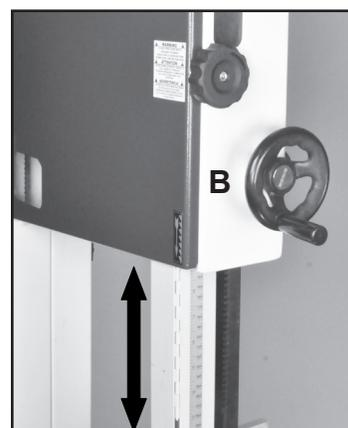

FIGURE 29
1. Loosen the Guidepost Lock Knob (#1D, Fig. 30A) and turn the Guidepost Handle (#31D, Fig. 29, B) to raise or lower the guide post/upper blade guide assembly to the desired height.